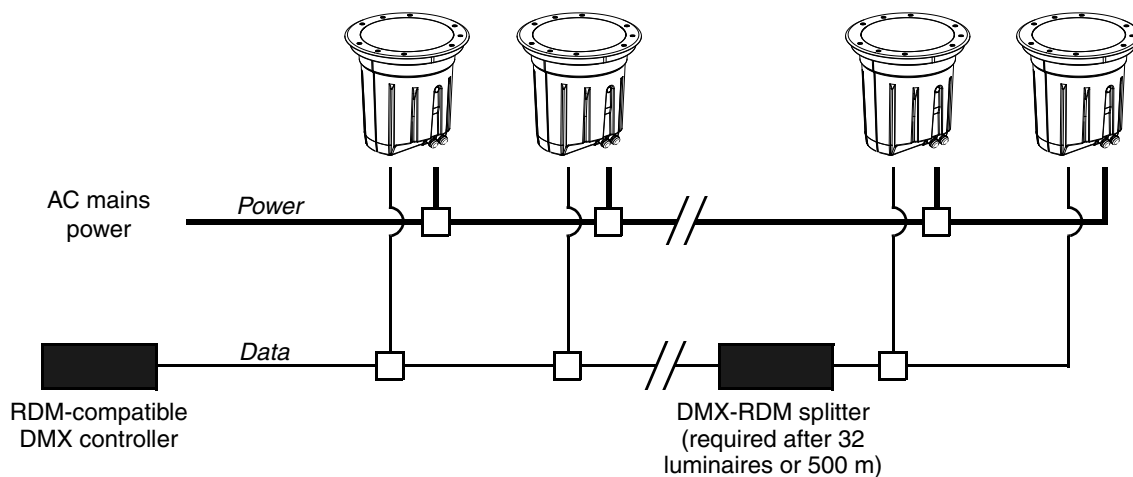

Figure 18: Schematic cable layout
Figure 18 gives a schematic diagram of the cable layout in an Inground 400 installation.
- Figure 18 shows one DMX universe only. If the fixtures on the data link occupy all of the 512 channels in one DMX universe, create a new DMX universe just like the one shown in Figure 18. The new DMX universe must have its own data link and its own DMX output from the controller.
See Figure 18 on page 22 for a schematic diagram of cable layout. If you require help in planning or dimensioning the power distribution system, please contact your Martin® supplier for assistance.